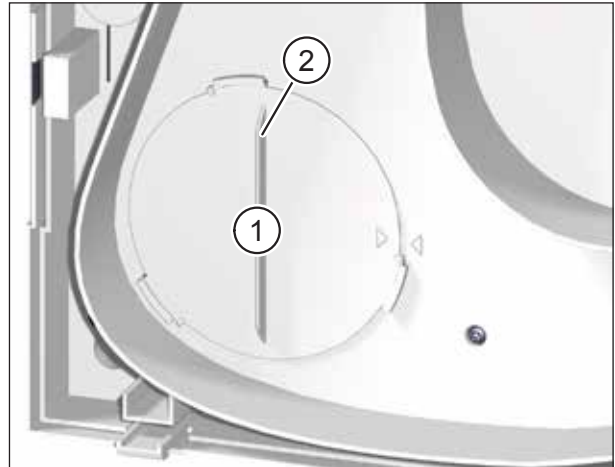

Fig. 16: Removing the outdoor air filter
- ▶ Turn the filter cover (item 1 in Fig. 16) using the hand grip (item 2 in Fig. 16) anti-clockwise until the filter cover is released from the retainers.
- ▶ Check the position of the filter cover. The hand grip must be vertical and the arrow on the filter cover must line up with the arrow for the locking position (see Fig. 16 on page 32).